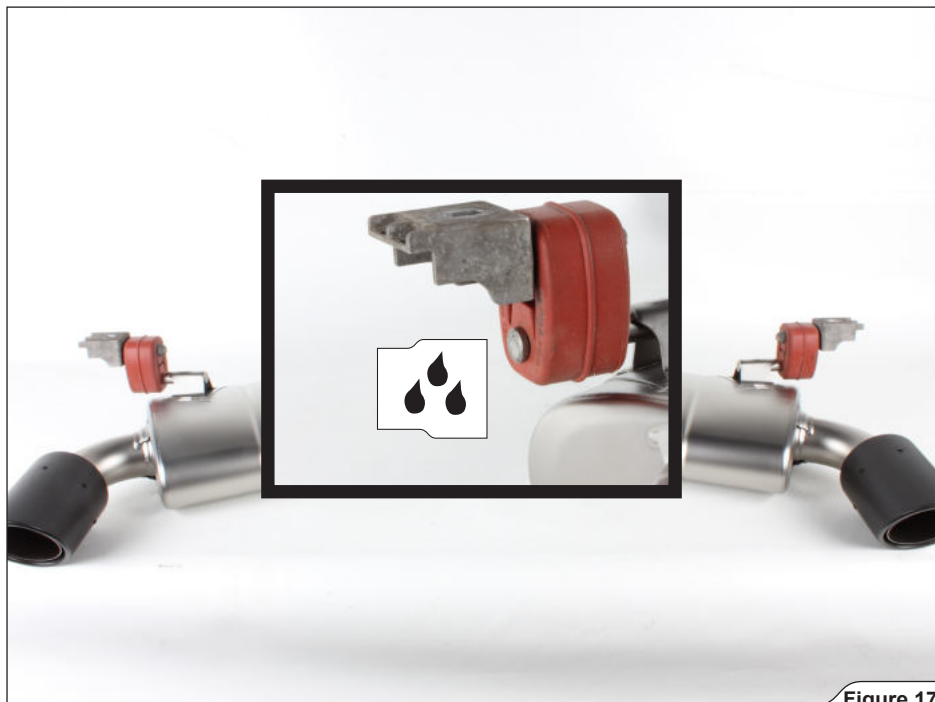

Figure 17
7. Attach the stock rubber brackets onto the Akrapovič muffler, as shown (Figure 17).